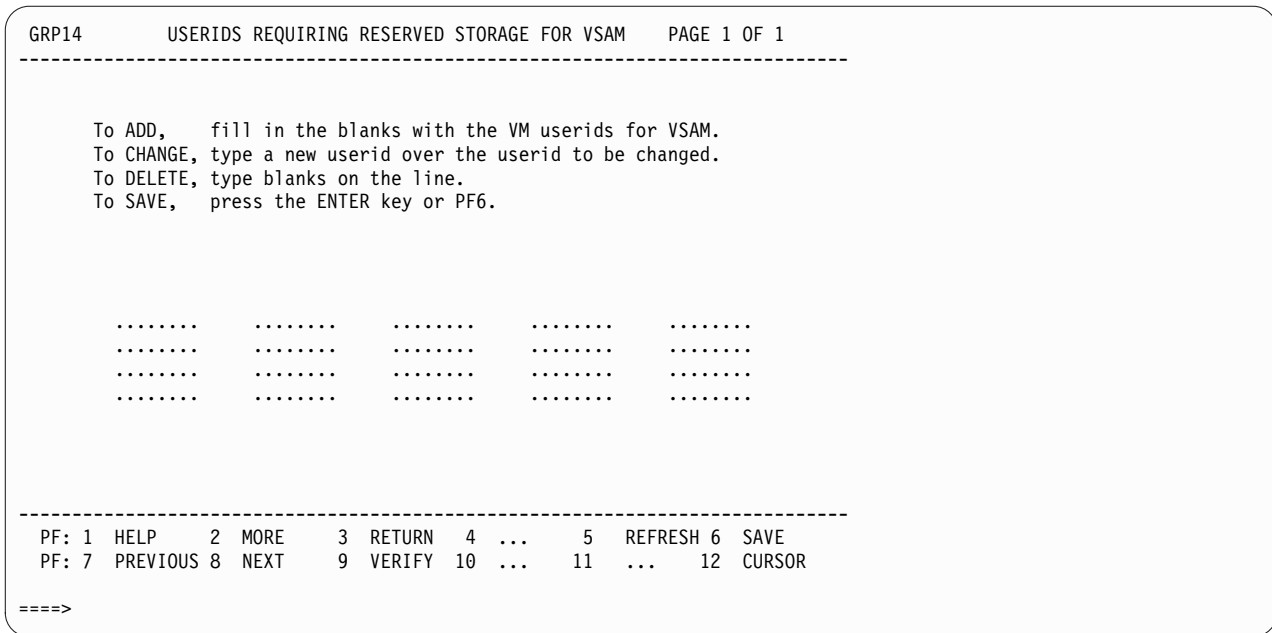

Figure 21. GROUP User IDs Requiring Reserved Storage for VSAM Panel. Enter the user IDs that require reserved storage for VSAM.
- User IDs Requiring Reserved Storage for VSAM (Figure 21 on page 114).